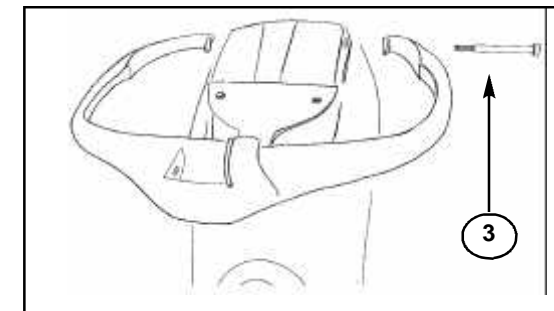

Figure 5.
Fix hand rail in place with the M6 x 90 socket head screws (3) through the forward mounts of the hand rail, the fender cover, and into the frame. **Do not tighten.** Figure 5.